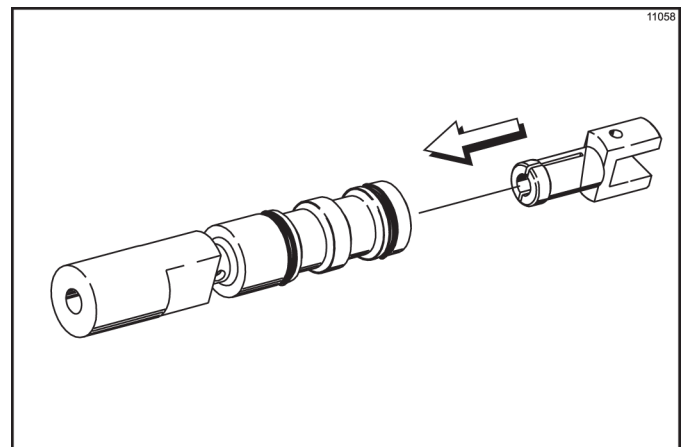

Figure 6-12
11. Squeezing the split ends together, insert the driven spinner through the metal opening of the draw valve until it snaps into place. (See Figure 6-12.)